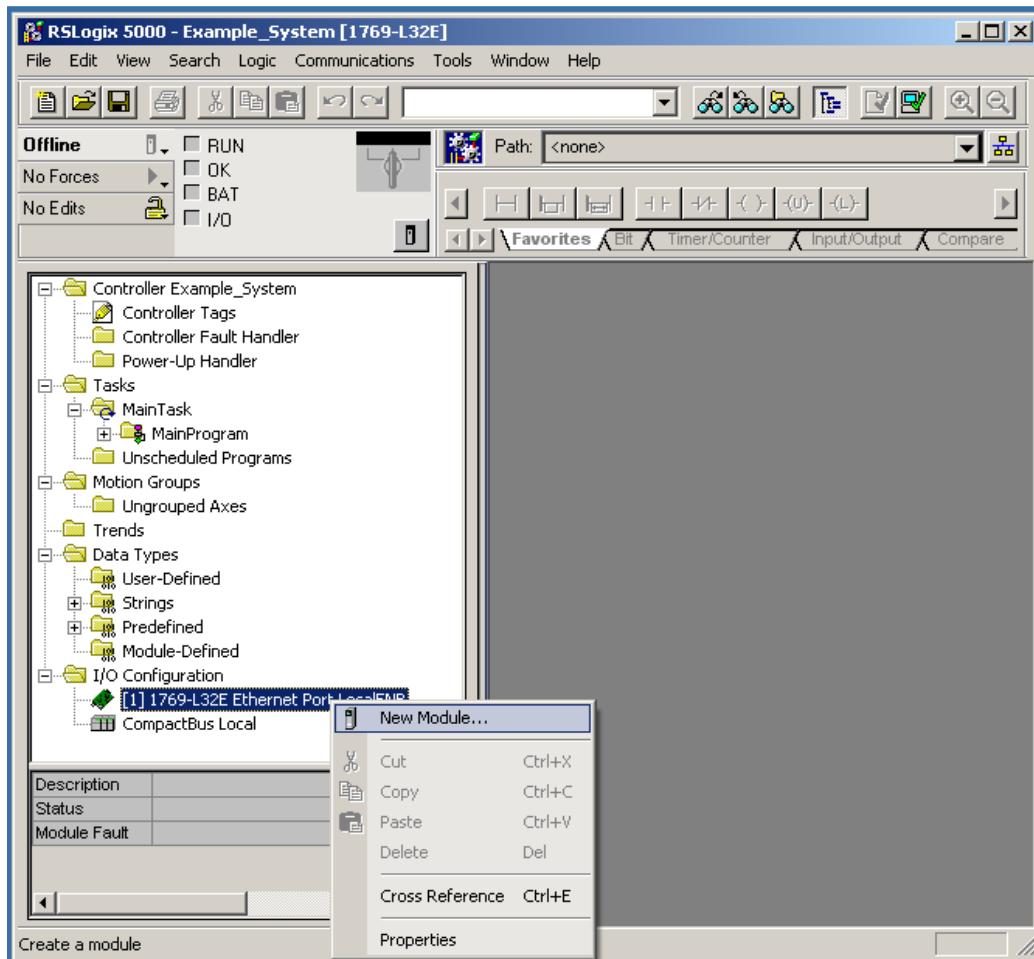

Figure 4 Example system “Adding the New Module to the I/O configuration”
- Right click to enable the addition of a new I/O module to the project (in this case, the Yaskawa AC drive). See Figure 4.